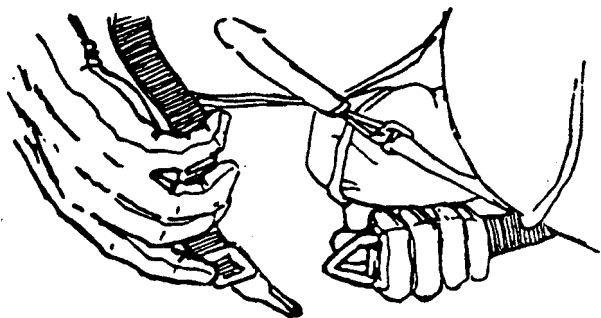

Figure 5-29.—Removing the pull tabs.
4. Grasp the two pull tabs of the retainer straps (fig. 5-29) and pull the straps out. Attach the quick-ejector snap hook to the V-ring and pull the strop tightly across your chest.